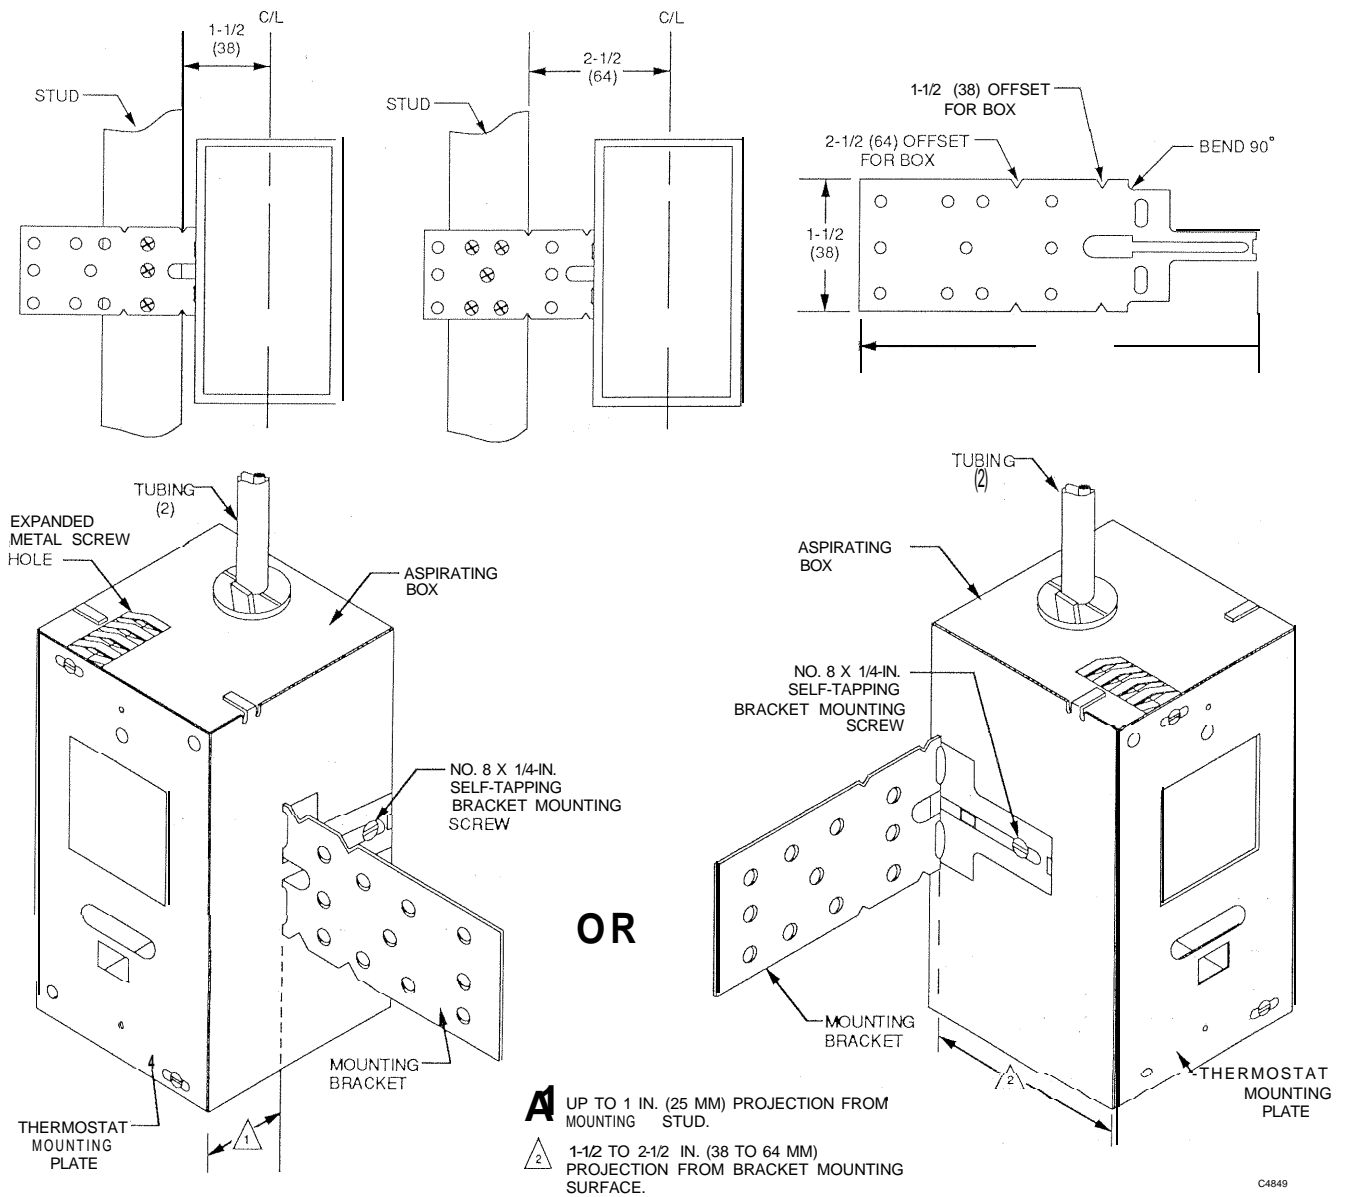

Fig. 4. Mounting 14002424-002 Wall Box. Dimensions in Inches (Millimeters).
1. Mount the mounting bracket on the Box as shown in Figure 4.
2. Mount the Box and bracket to the stud as shown in Figure 4 or 5.